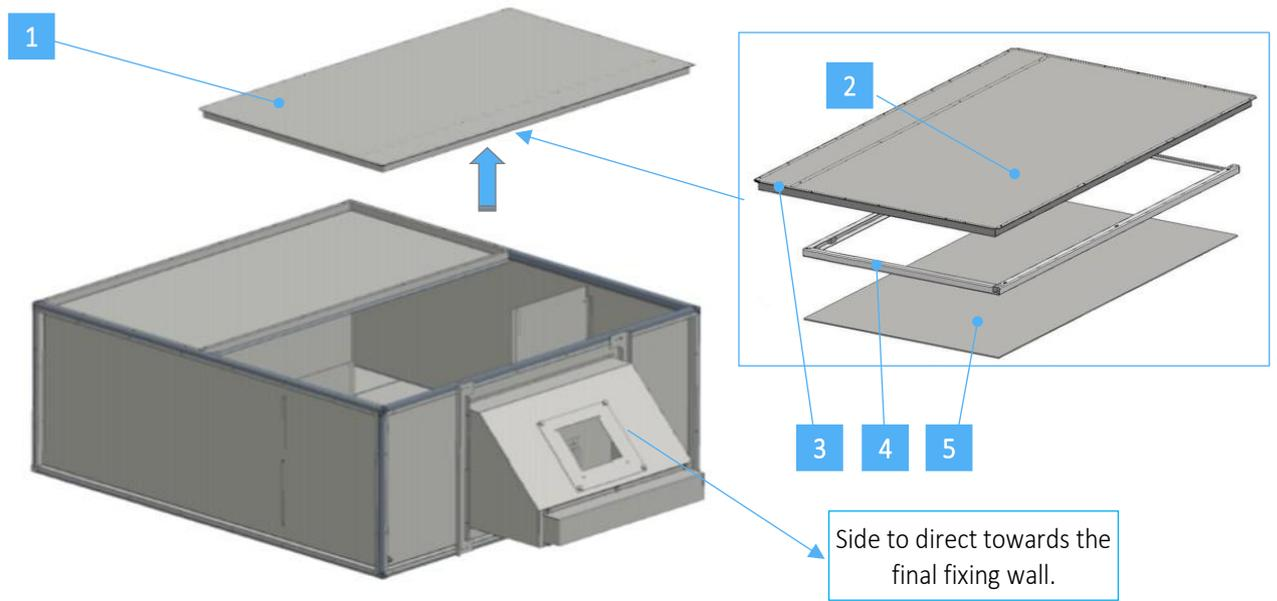

Fig. 5 Upper lid removal
- Make the assembly near installation wall, placing dark-box prism towards the same wall (Fig. 5).